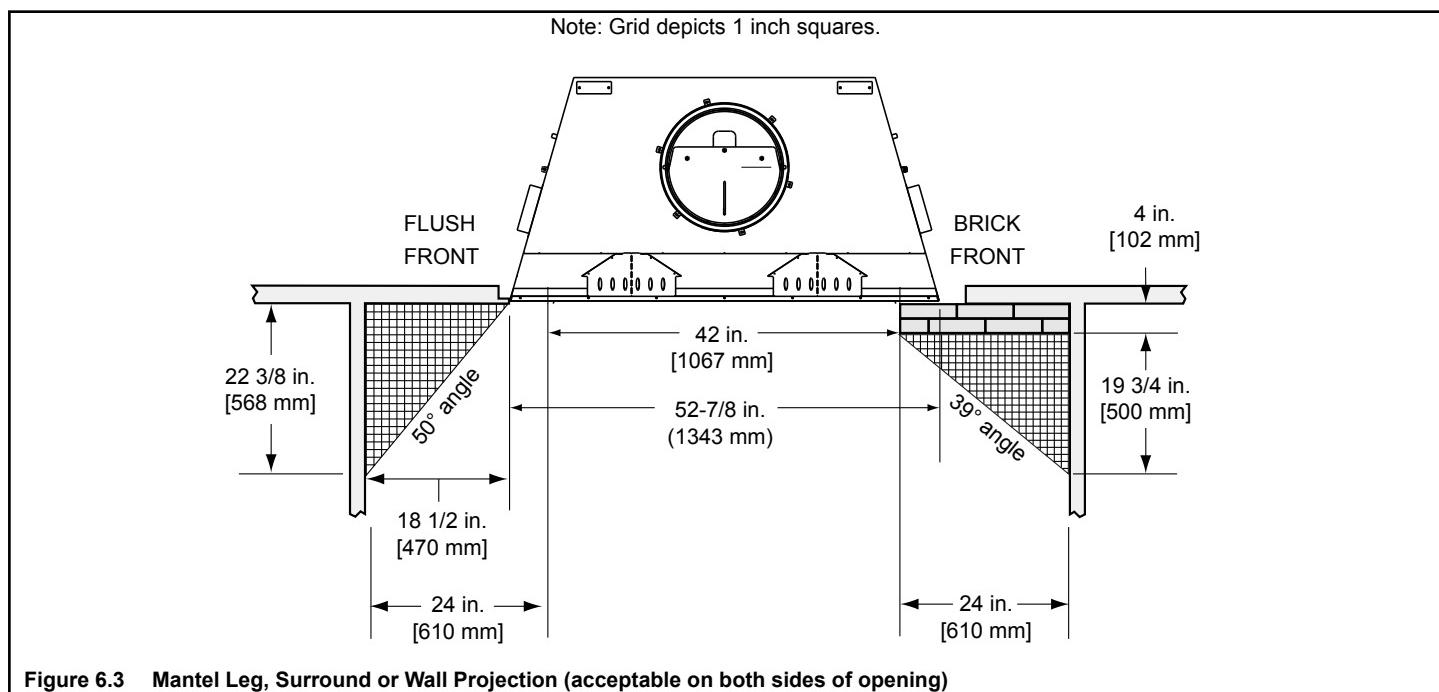

Figure 6.3 Mantel Leg, Surround or Wall Projection (acceptable on both sides of opening)
- Mantle leg, surround, stub wall, whether combustible or non-combustible, may be constructed as shown in Figure 6.3.